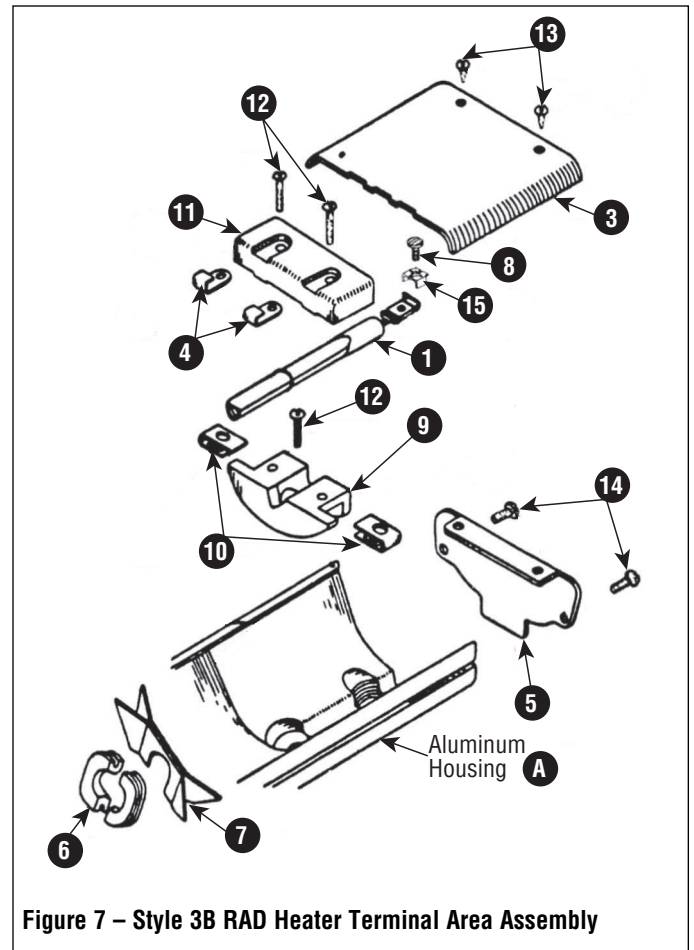

Figure 7 – Style 3B RAD Heater Terminal Area Assembly
1. Completely disassemble heater. Re-use the heating element (if desired) and the extruded aluminum housing (Fig. 7). Scrap all the other parts.
2. Drill #24 (.152" dia.) hole in the back of the extruded housing **A**, 3" from each end. (See Fig. 7)
5. Assemble heater as shown in Figure 7.
5. Assemble heater as shown in Figure 7 using Parts Bag 168-016585-002.
2. Assemble heater as shown in Figure 7 using Parts Bag 168-016585-001.